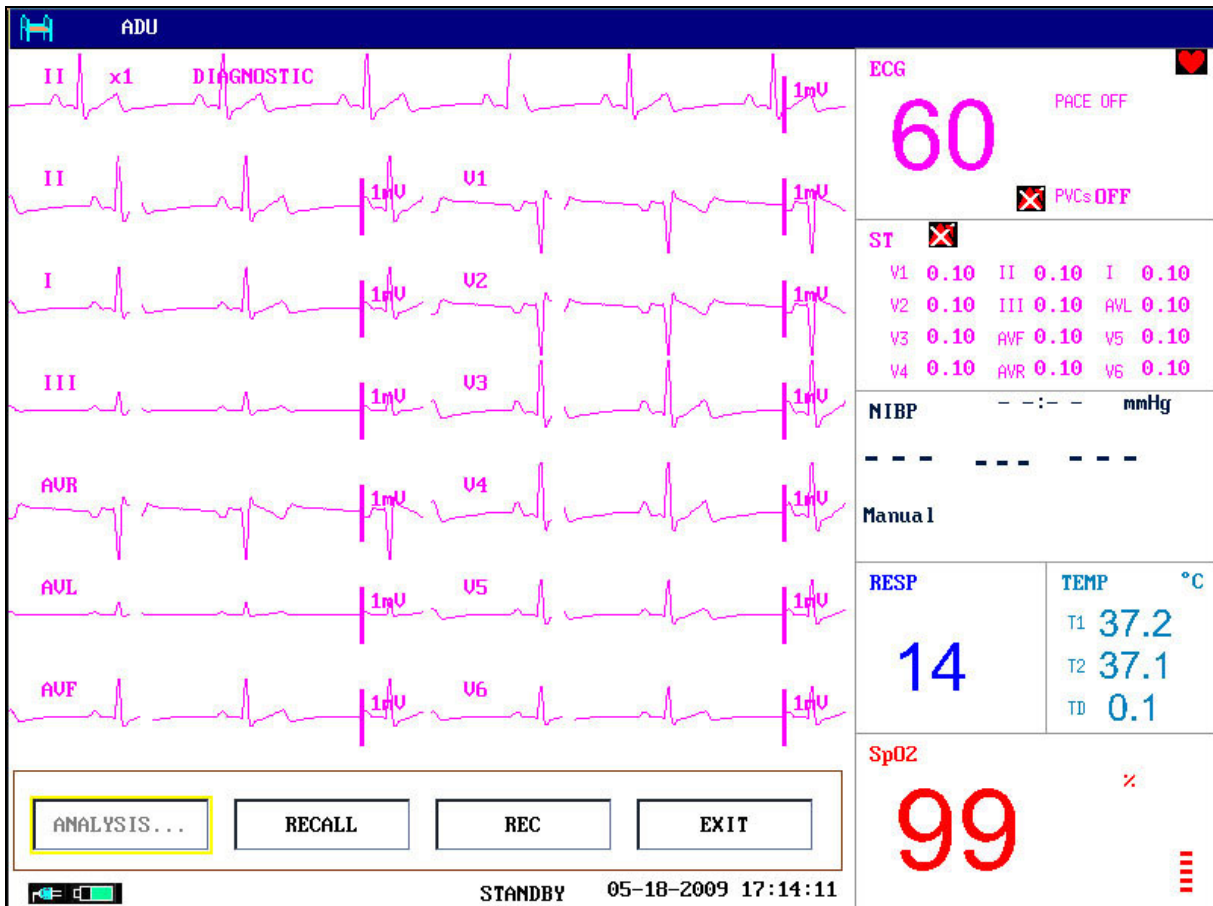

Figure 12-15 12 LEADS DISPLAY mode
- ST segment monitoring function is shut off by default. You can switch it to **ON** when necessary. When using the ST analysis function, the ST analysis results will be displayed on the right of the main screen, please refer to Figure12-15.